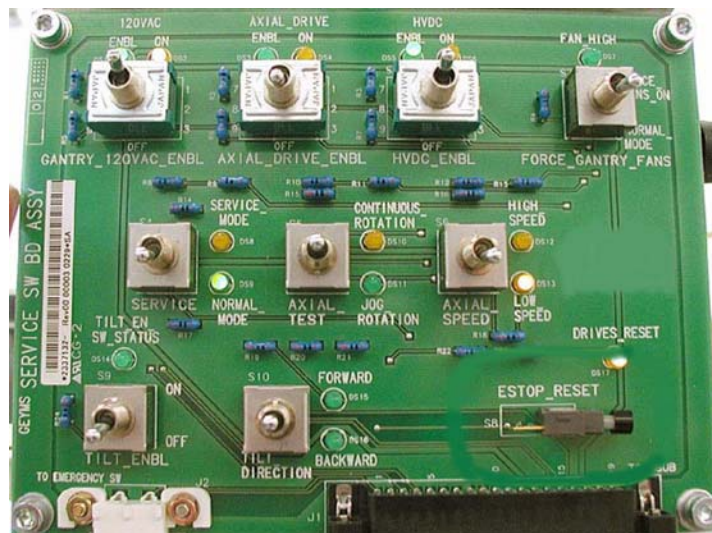

Figure A-11 Service Switch Panel
- 4.) Verify the three (3) power switches have been turned **OFF** (see Figure A-11).